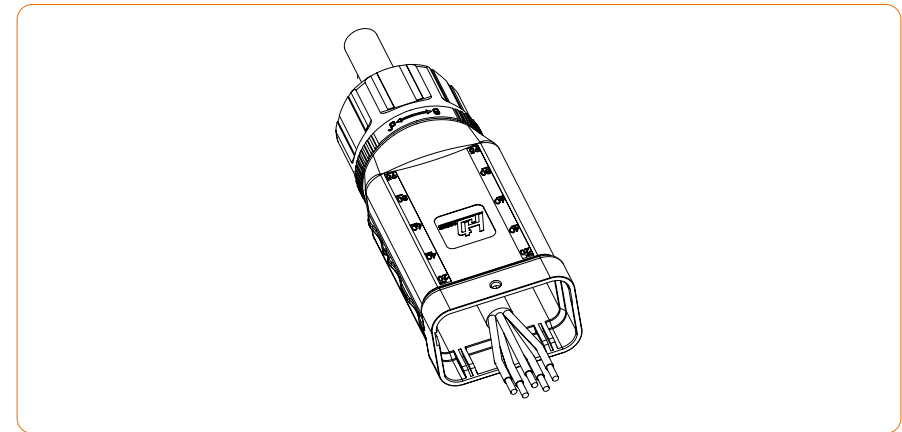

Figure 4-22
2) Thread the stripped wire into the lock nut and the main body in turn (the flexible wire needs to be riveted to the insulated terminal), as shown in Figure 4-22: